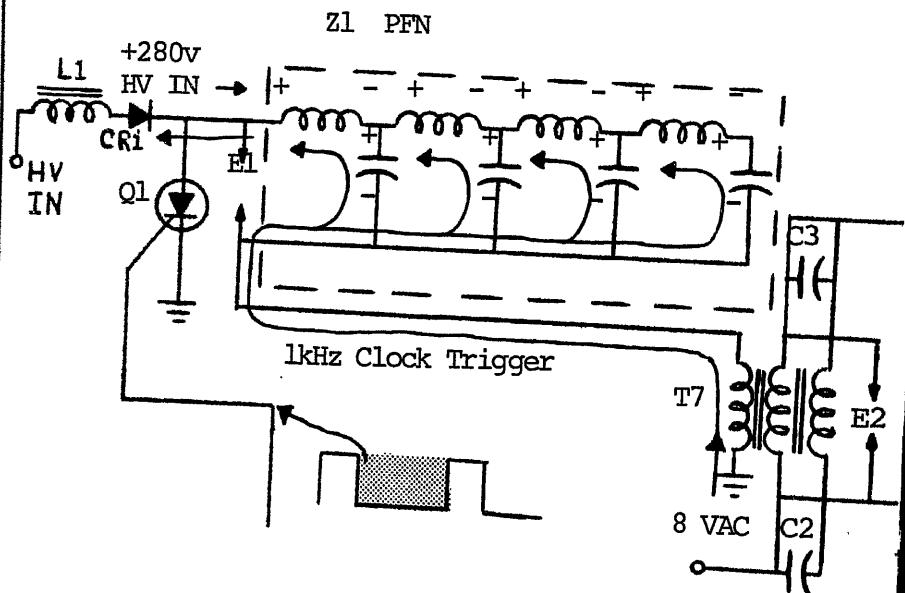

FIGURE 9: PULSE FORMING NETWORK CHARGING SEQUENCE
43. The high voltage for the PFN also passes through the holding diode CRL before being applied to the pulse forming network. Since the input voltage has a positive polarity, the diode will be forward biased--thus passing the voltage. At the peak of the positive swing each "leg" of the PFN will have assumed a charge shown by the polarity markings on the inductors and capacitors at figure 9. The charge path of the PFN is from ground up through the pulse transformer T7, to each "leg" in the PFN, and through holding diode CRL and the charging inductor.